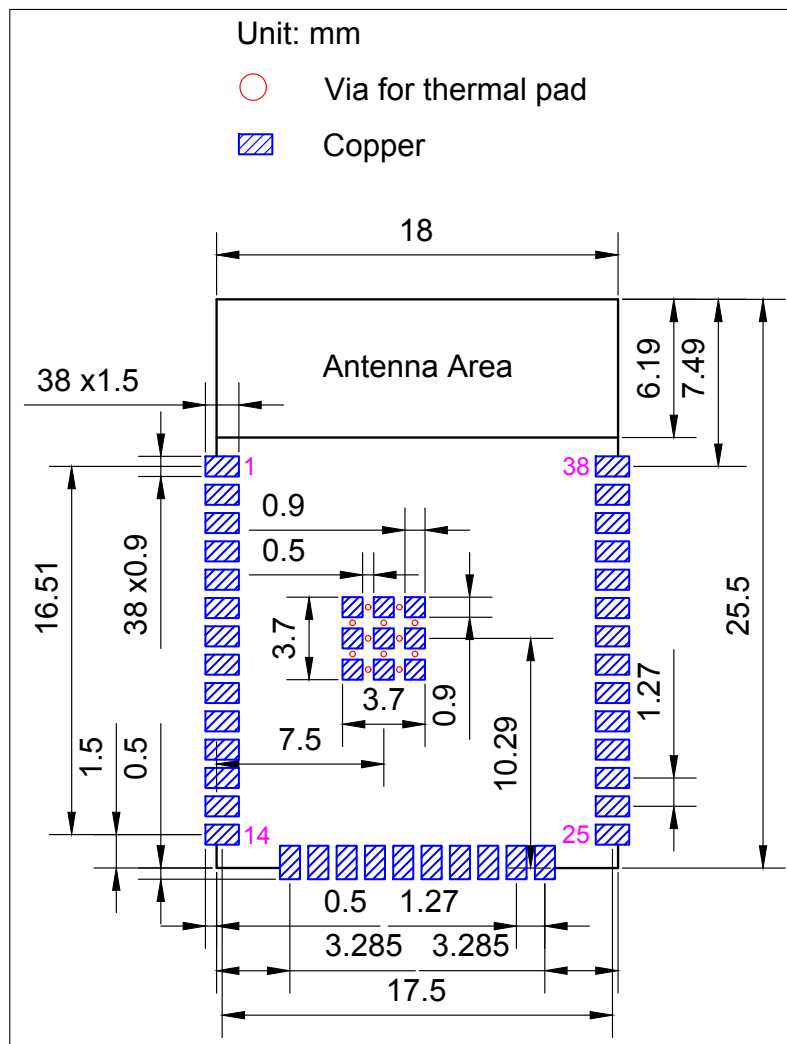
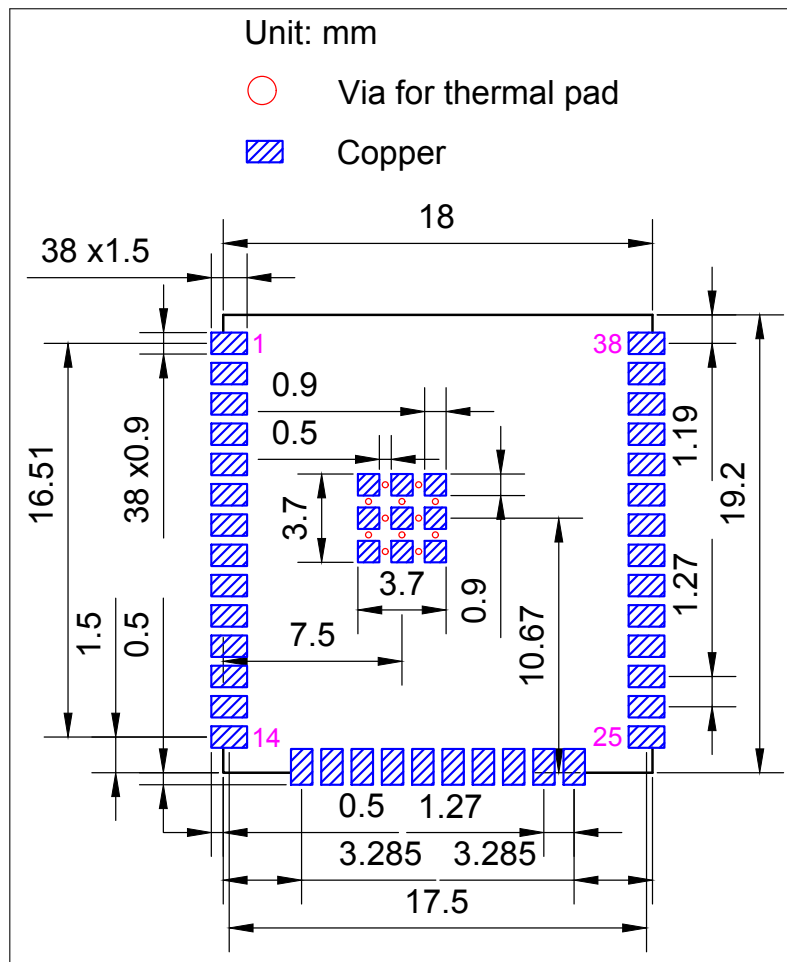

Figure 12: ESP32-WROOM-32E Recommended PCB Land Pattern
Figure 13: ESP32-WROOM-32UE Recommended PCB Land Pattern
- Figures for recommended PCB land patterns with all the dimensions needed for PCB design. See Figure 12 ESP32-WROOM-32E Recommended PCB Land Pattern and Figure 13 ESP32-WROOM-32UE Recommended PCB Land Pattern.
- Source files of recommended PCB land patterns to measure dimensions not covered in Figure 12 and Figure 13. You can view the source files for ESP32-WROOM-32E and ESP32-WROOM-32UE with Autodesk Viewer.